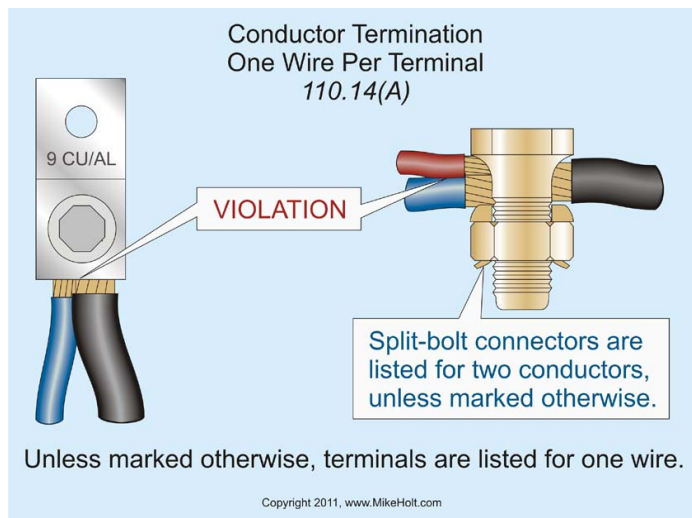

Figure 110-9
- Split-bolt connectors are commonly listed for only two conductors, although some are listed for three conductors. However, it's a common industry practice to terminate as many conductors as possible within a split-bolt connector, even though this violates the *NEC*. **Figure 110-9**